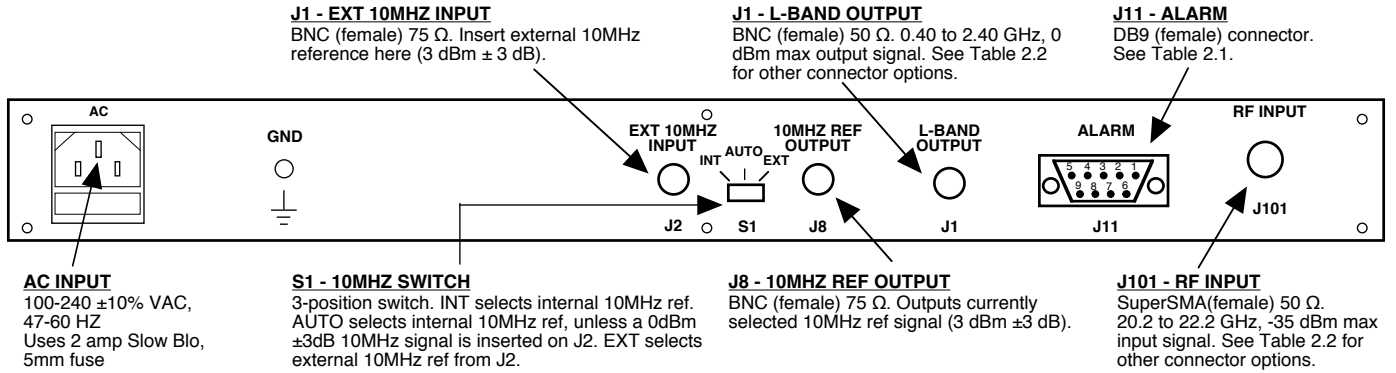

FIGURE 2.1 2116-202222 Rear Panel I/O's
2.2 Rear Panel Input/Output Signals - Figure 2.1 shows the input and output connectors on the rear panel.
- 1.) Connect a -55 dBm to -35 dBm signal to RF INPUT, J101 (Figure 2.1).
- 5.) Select either INT (for internal 10MHz ref), AUTO (for internal 10MHz ref UNLESS a external 10MHz, 0 dBm signal is connected to J2), or EXT (for external 10MHz, 0 dBm ref that is inserted at J2) on rear panel switch S1 (Figure 2.1).
- 7.) Check that a 10MHz, 0 dBm \pm 3 dB signal is present at the 10MHZ REF OUTPUT (J8) (Figure 2.1).